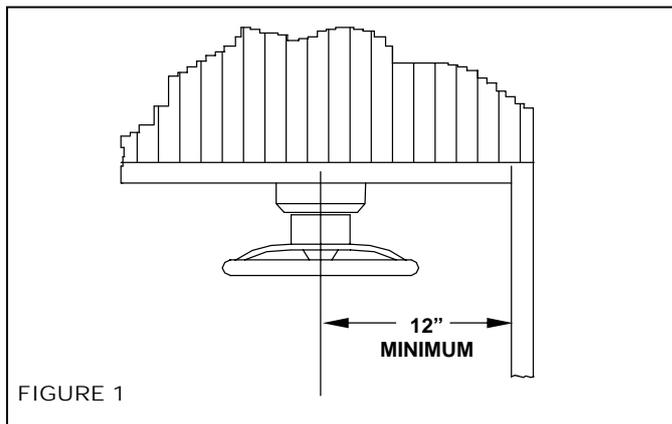

FIGURE 1
- Steering cables must be routed to the starboard side of the boat. (SH 5023 and 5075 can be routed to port side but starboard side is preferred in order to balance engine torque). A minimum horizontal clearance of 12" is required from the gunwale to the center of the helm steering shaft (see Figure 1). This dimension controls the minimum acceptable bend radius of 8". A smaller bend radius will reduce steering performance and may result in premature cable failure.